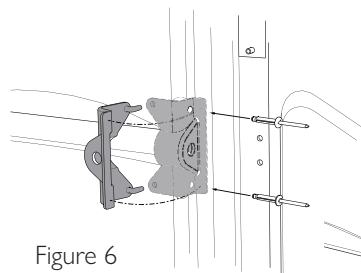

Figure 6
Refer to Figure 6. Place the door closure in the molded channel located at the center of the door and push it into the molded pocket. Thread the ball end of the cable through the hole in the door closure retainer clip. Position the door closure retainer clip (as shown in Figure 6). Rivet in place with (2) PC-000105 bulbex rivets. Go into the restroom and close the door. Refer to Figure 7. Place the barrel end of the spring cable into the slot of the PC-000181 plastic cable clip. Insert an awl through the bottom hole of the cable clip and pull the clip so that awl is inserted into the drilled hole in the door jamb. Lining up the top hole, rivet from the outside with a PC-000109 rivet with a PC-000106 washer on the inside. Remove the awl and rivet the bottom hole in the same manner.